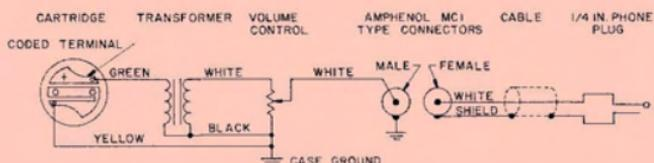

FIGURE 2
To change the phase of a microphone, the microphone cartridge leads must be interchanged (see Figure 2). This should be performed by your dealer, the Shure Factory Service Department, or other qualified service personnel.
- Phasing:** Positive pressure on diaphragm produces positive voltage on TIP of phone plug. (See Figure 2 and Page 4)